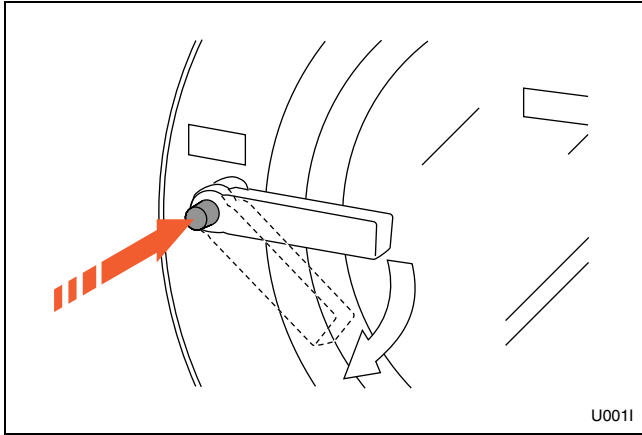

Figure 5
2. Push button and turn handle clockwise to open. Refer to *Figure 5*.